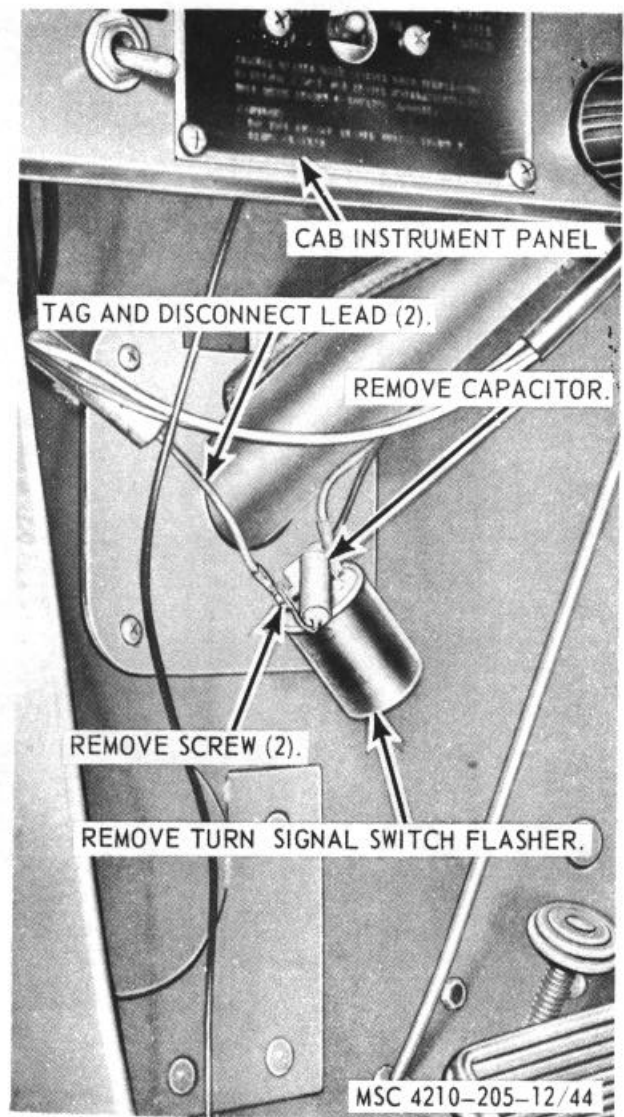

Figure 44. Flasher assembly, removal and installation.
- a. *Removal.* Refer to figure 44, and remove the flasher assembly from the fire truck control panel.
- (1) Clean all parts with a clean cloth dampened in an approved cleaning solvent, and dry thoroughly.
- (2) Inspect all parts for damaged or defective condition.
- (3) Replace or repair damaged or defective parts as necessary.
- c. *Installation.* Refer to figure 44, and install the flasher assembly on the fire truck control panel.